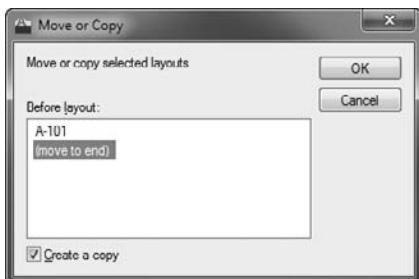

FIGURE 14.57 Copying a layout using the Move Or Copy dialog box
3. The Move or Copy dialog box opens. Select (Move To End) in the Before Layout portion of the dialog box, and then check the Create A Copy check box (see Figure 14.57). Click OK to copy the layout and exit the Move or Copy dialog box.